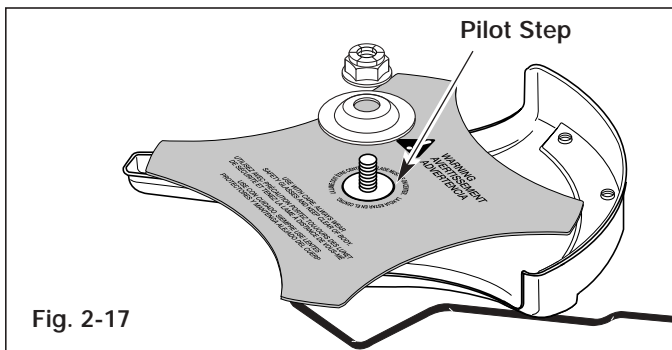

Fig. 2-17
- Make sure that the cutting blade is centered on the pilot step and sitting flat against the output shaft bushing (Fig. 2-17).